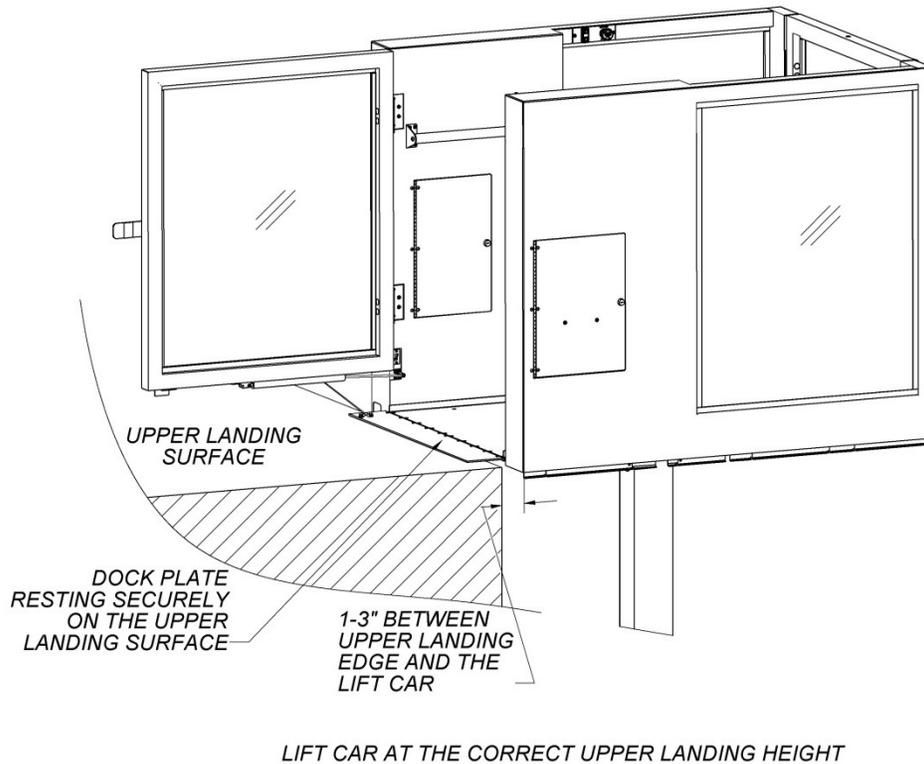

Figure 4
9. Open the upper landing gate completely. Verify that the dock plate rests securely on the upper landing, and provides a smooth, level, and safe transition to and from the platform. See Figure 4.